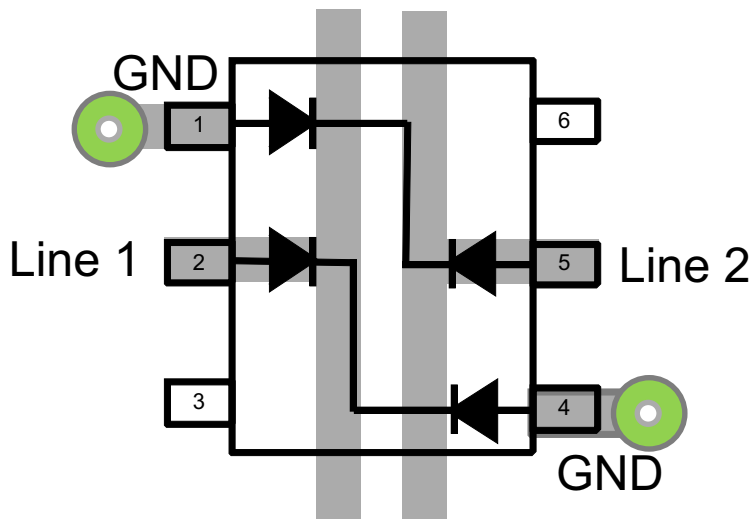
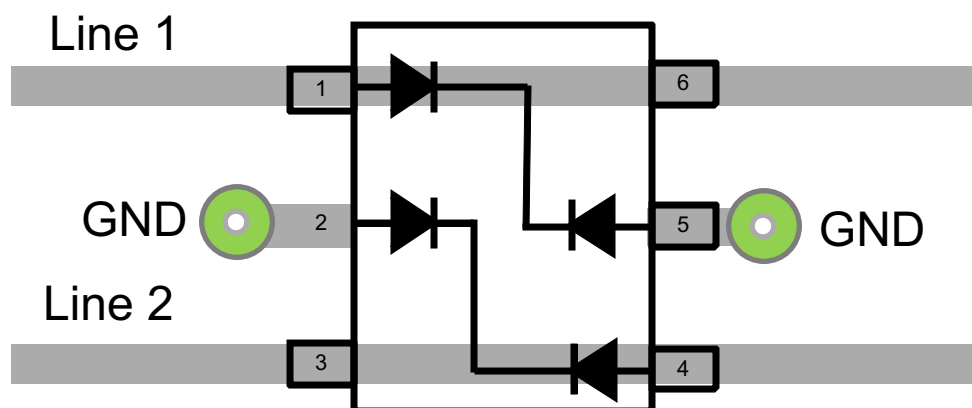

Figure 2. Routing Option 1
Figure 3. Routing Option 2
(1) Using Routing Option 1 or 2 as shown in Figure 2 or Figure 3.
(1) Transmission line pulse with rise time 10ns and pulse width 100ns.
(3) Using Routing Option 1, Figure 2.
(4) Using Routing Option 2, Figure 3.